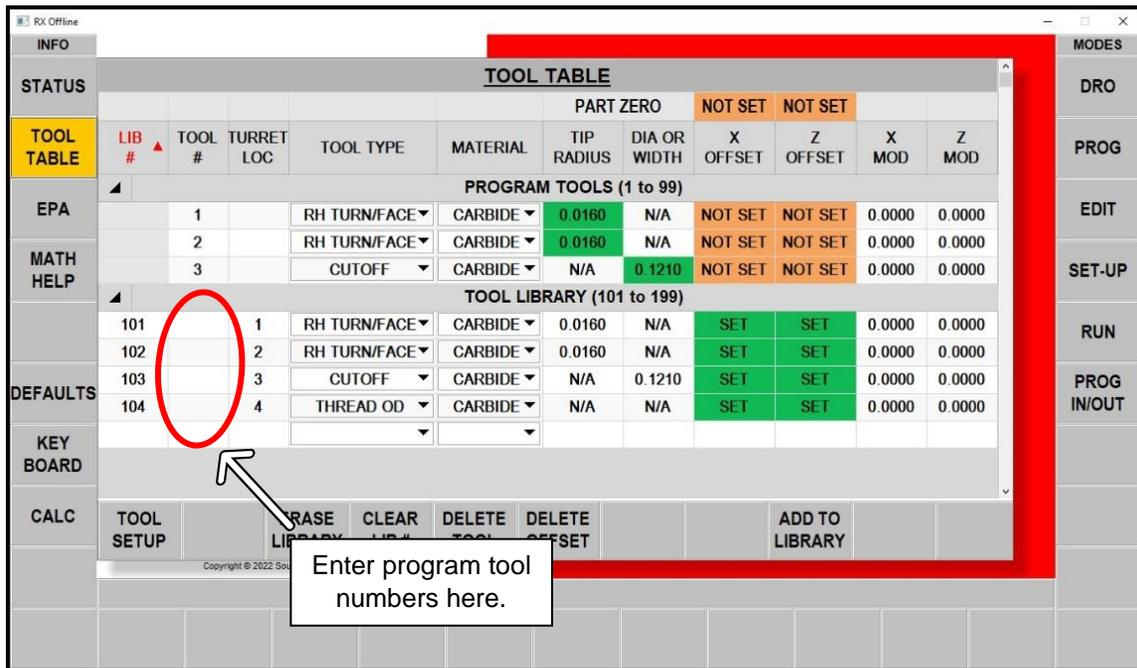

Figure 19
- Open the TOOL TABLE window (Figure 19) and note that there are now three tools listed under the PROGRAM TOOLS section and the X and Z OFFSET columns are labeled NOT SET. Once a program is opened, any tools called for in the program will be listed here.
- Now we must assign tools from the TOOL LIBRARY list to their corresponding PROGRAM TOOLS. In the TOOL # column (Figure 19), enter "1" beside LIBRARY TOOL 101 and press ABS SET. Note that tool 101 has been called into the PROGRAM TOOLS list under the LIB # column. Continue assigning LIBRARY TOOL 102 to PROGRAM TOOL 2, and 103 to 3. Close the TOOL TABLE window when done.